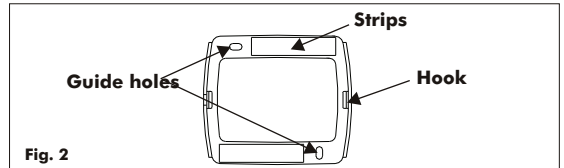

Fig. 2
For the wall fixing, locate a plane position not metallic. Place on the back side of the transmitter, inside the 2 rectangular areas, the 2 strips supplied (Fig. 2), remove the protection films and fix the transmitter.
- 1) Remove the cover with the electronic card by using a screw-driver and acting on the side slot (Fig. 2).